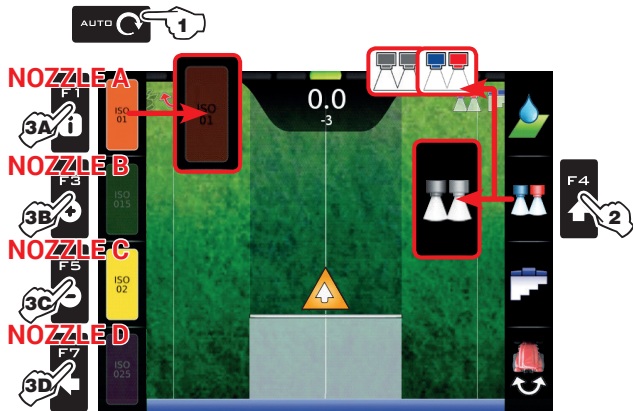

Fig. 261
- 3 Press the button next to the nozzle (Fig. 261) to enable or disable the corresponding nozzle.
The number of nozzles displayed in Fig. 261 will vary according to the spraying point setting (par. 5.1.1).